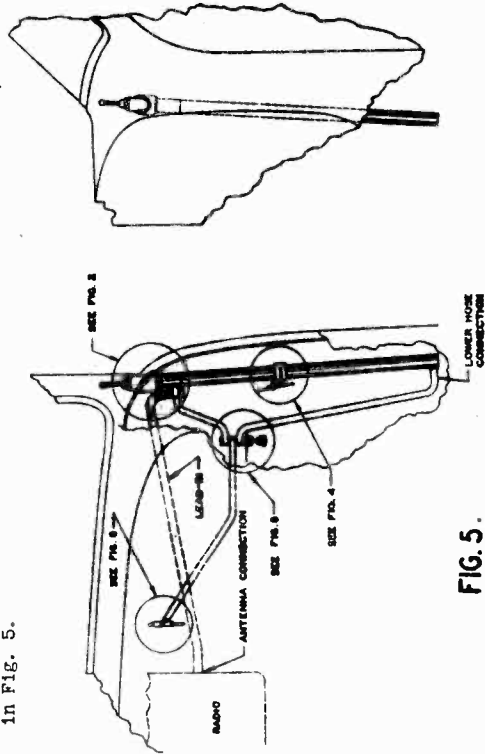

FIG. 5
- Assemble lower hose connection to the bottom of the antenna, as shown in Fig. 5.